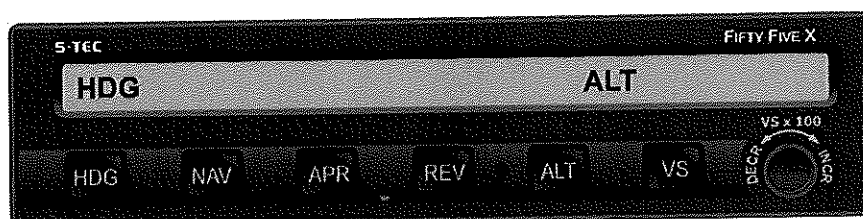

Fig. 3-11. AP Display, HDG and ALT HOLD Modes Engaged
The altitude hold mode can only be engaged if a roll mode (HDG, NAV, NAV APR, REV, REV APR, NAV GPSS) is already engaged. With a roll mode engaged and the aircraft at the desired altitude, press the ALT mode selector switch to engage the altitude hold mode. The ALT annunciation will appear as shown in Fig. 3-11, to acknowledge that this mode is engaged. The autopilot will hold the aircraft at its current (captured) absolute pressure altitude. This altitude may be modified for barometric pressure changes, by rotating the Modifier Knob either clockwise (CW) for an increase in altitude, or counter-clockwise (CCW) for a decrease in altitude. Each detent equals 20 feet, and the range is ± 360 feet from the original captured altitude.